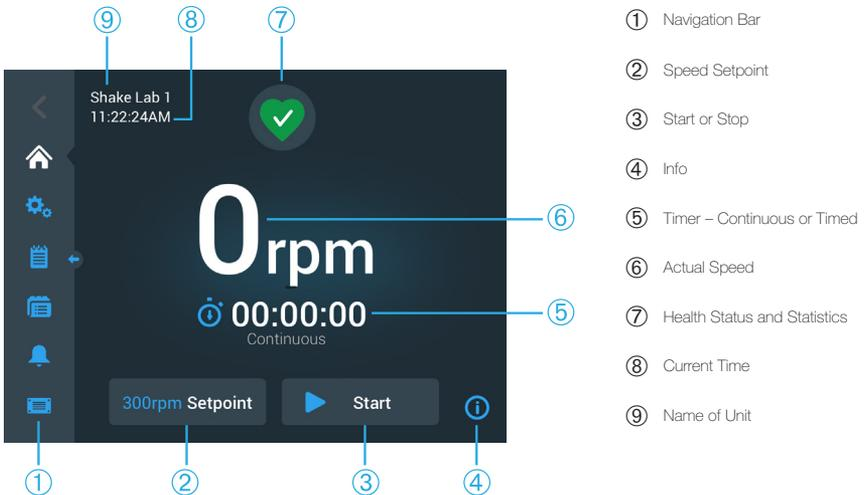
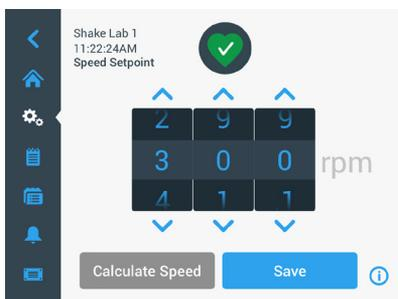
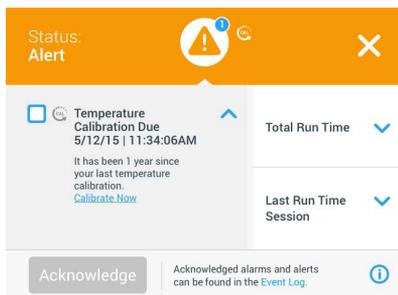
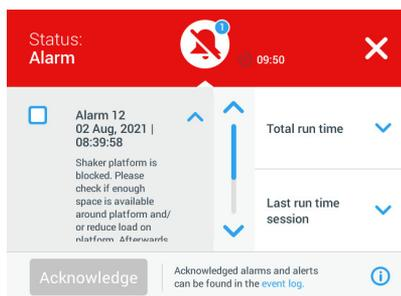

Figure 26: GUI Home Screen for Open Air Shaker
Figure 28: Speed setpoint
Figure 36: List of Alerts
Figure 37: List of Alarms
The Home Screen for an open air shaker looks like the example shown in Figure 26.
1. Tap anywhere on the **Actual Speed** field (6 in Figure 26 or 7 in Figure 27) to open the **Speed Setpoint** screen shown in Figure 28.
1. Tap the **Time** field (Ⓢ) in Figure 26 and Figure 27) to open the Time Mode screen shown in Figure 32.
When the shaker is in good health, the touchscreen display shows a green heart icon in the Health Status and Statistics area (Ⓐ in Figure 26 and Figure 27). Tapping the green heart icon opens the status screen. The status screen provides operating statistics information on your shaker, including hours shaking and hours powered in total and for the last session. Temperature controlled shakers display the hours spent cooling or heating in addition.
When an alert is issued, the touchscreen display shows a yellow newsticker-type bar on top of the current screen. Additionally, an audible alarm tone is sounding. The yellow newsticker-type alert bar goes away after scrolling its message twice. Only the yellow triangle indicates that one or more alerts exist for the shaker. The triangle icon has a blue circle with a white border that shows how many active alerts exist. Tapping the triangle icon in the Info & Health Status area (Ⓒ in Figure 26 and Ⓓ Figure 27) opens a screen listing all alerts that are currently active. The latest alert appears expanded to let you view the full details, as shown in Figure 36. You can scroll through the list and tap on any list item to expand it and read more.
When an alarm is issued, the touchscreen display shows a red bar on top of the current screen. The Info & Health Status area (7 in Figure 26 and 8 in Figure 27) displays a red alarm bell enclosed by sound waves. Additionally, an audible alarm tone constantly sounds.
Tapping the bell icon in the Info & Health Status area (8 in Figure 26 and Figure 27) opens a screen that presents the full details of the currently active alarm, as shown in Figure 37. You can scroll through the list and tap on any list item to expand it and read more.